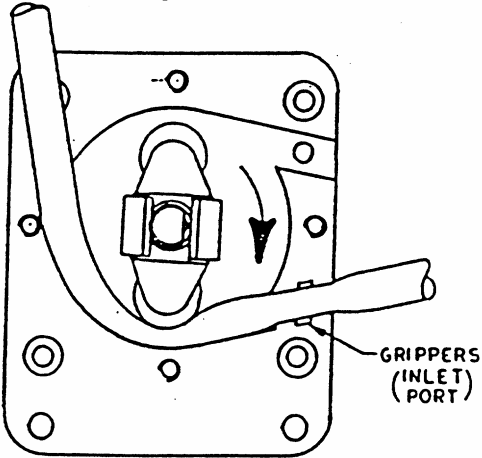

FIG. 2
- 7) Push new tubing into inlet port, anchoring tubing in grippers. See fig. 2. Connect power and run unit at a slowest speed. Carefully **feed tube into race** as rollers turn (keep fingers **away from rollers**).
- 7) Push new tubing into inlet port, anchoring tubing in grippers (see Fig. 2) while rotating roller bracket assembly.